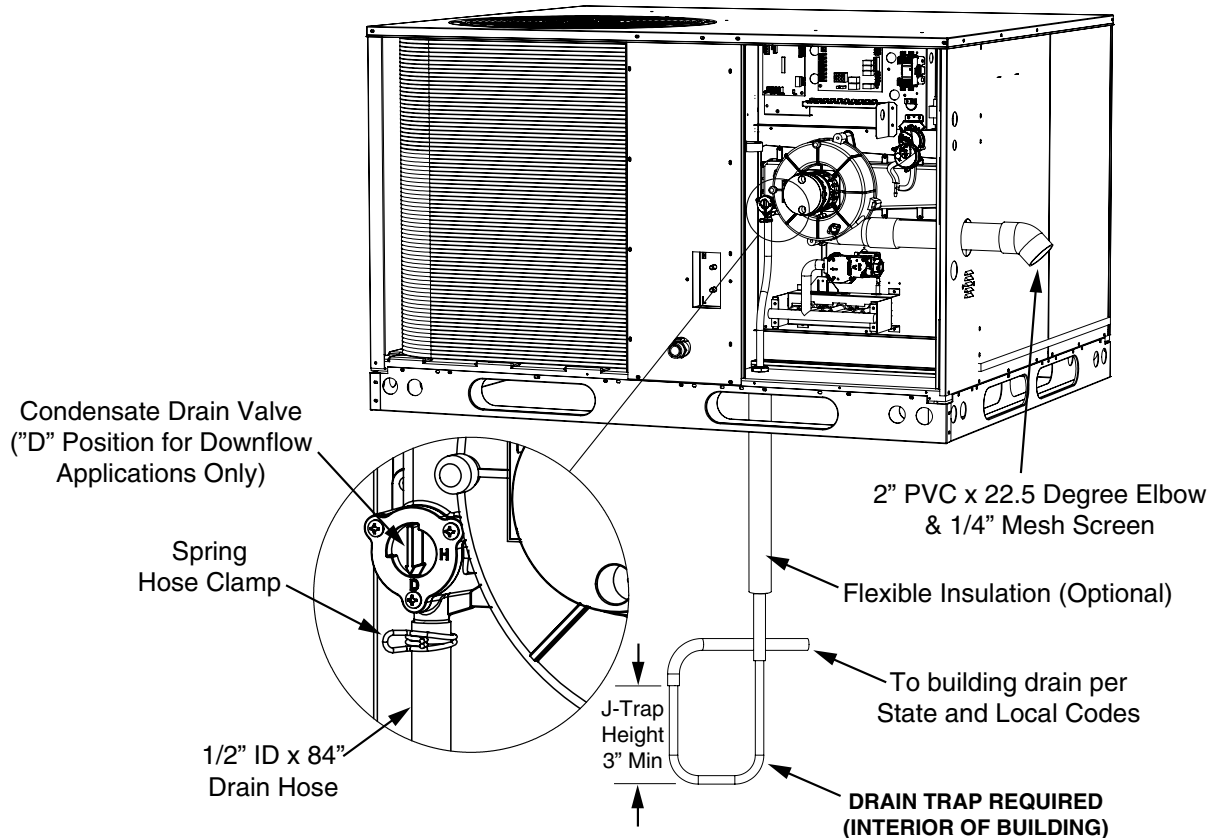

Figure 2. Condensate Disposal
Before hoisting and setting the unit in place, the short piece of factory installed drain line located next to the unit burner section must be removed from the HX collector box drain valve to allow for passage of the condensate drain line installed with the roof curb. The condensate drain valve is located in the bottom left corner of the heat exchanger collector box. See Figure 2 \(page 3\). Remove the drain line and rubber grommet located in the unit bottom pan, setting the rubber grommet aside for later use.
Downflow applications require the factory set position of the condensate drain valve be changed from the horizontal (H) to downflow (D) position. The condensate drain valve is located in the bottom left corner of the heat exchanger collector box to the left of the inducer motor. See Figure 2. Carefully rotate the valve 90 degrees in a clockwise direction until the arrow is pointing vertically downward.
- For Installations where there is limited clearance for the J-Trap (such as an attic where it may be installed between ceiling joists), either side of the J-Trap can be shortened to a minimum of 3 Inches. See Figure 2 \(page 3\).